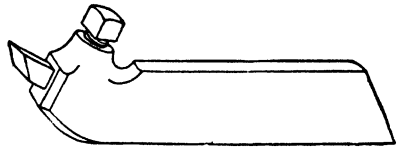

Fig. 55. Tool Using Self-Hardening Steel Blade
*Self-Hardening Steel.* Self-hardening steel is used to a large extent in modern practice for lathe tools, much being used in the shape of small square steel blades held in special holders, as Fig. 55. Self-hardening steel, as its name indicates, is almost self-hardening by nature; generally, the only treatment that is required to harden the steel being to heat it red hot and allow it to cool. Sometimes the steel is cooled in an air blast or is dipped in oil. It is not necessary to draw the temper. The self-hardening quality of steel is given to it by the addition of chromium, molybdenum, tungsten, or one of that group of elements, in addition to the carbon which ordinary tool steel contains. High-speed steel is lower in carbon.